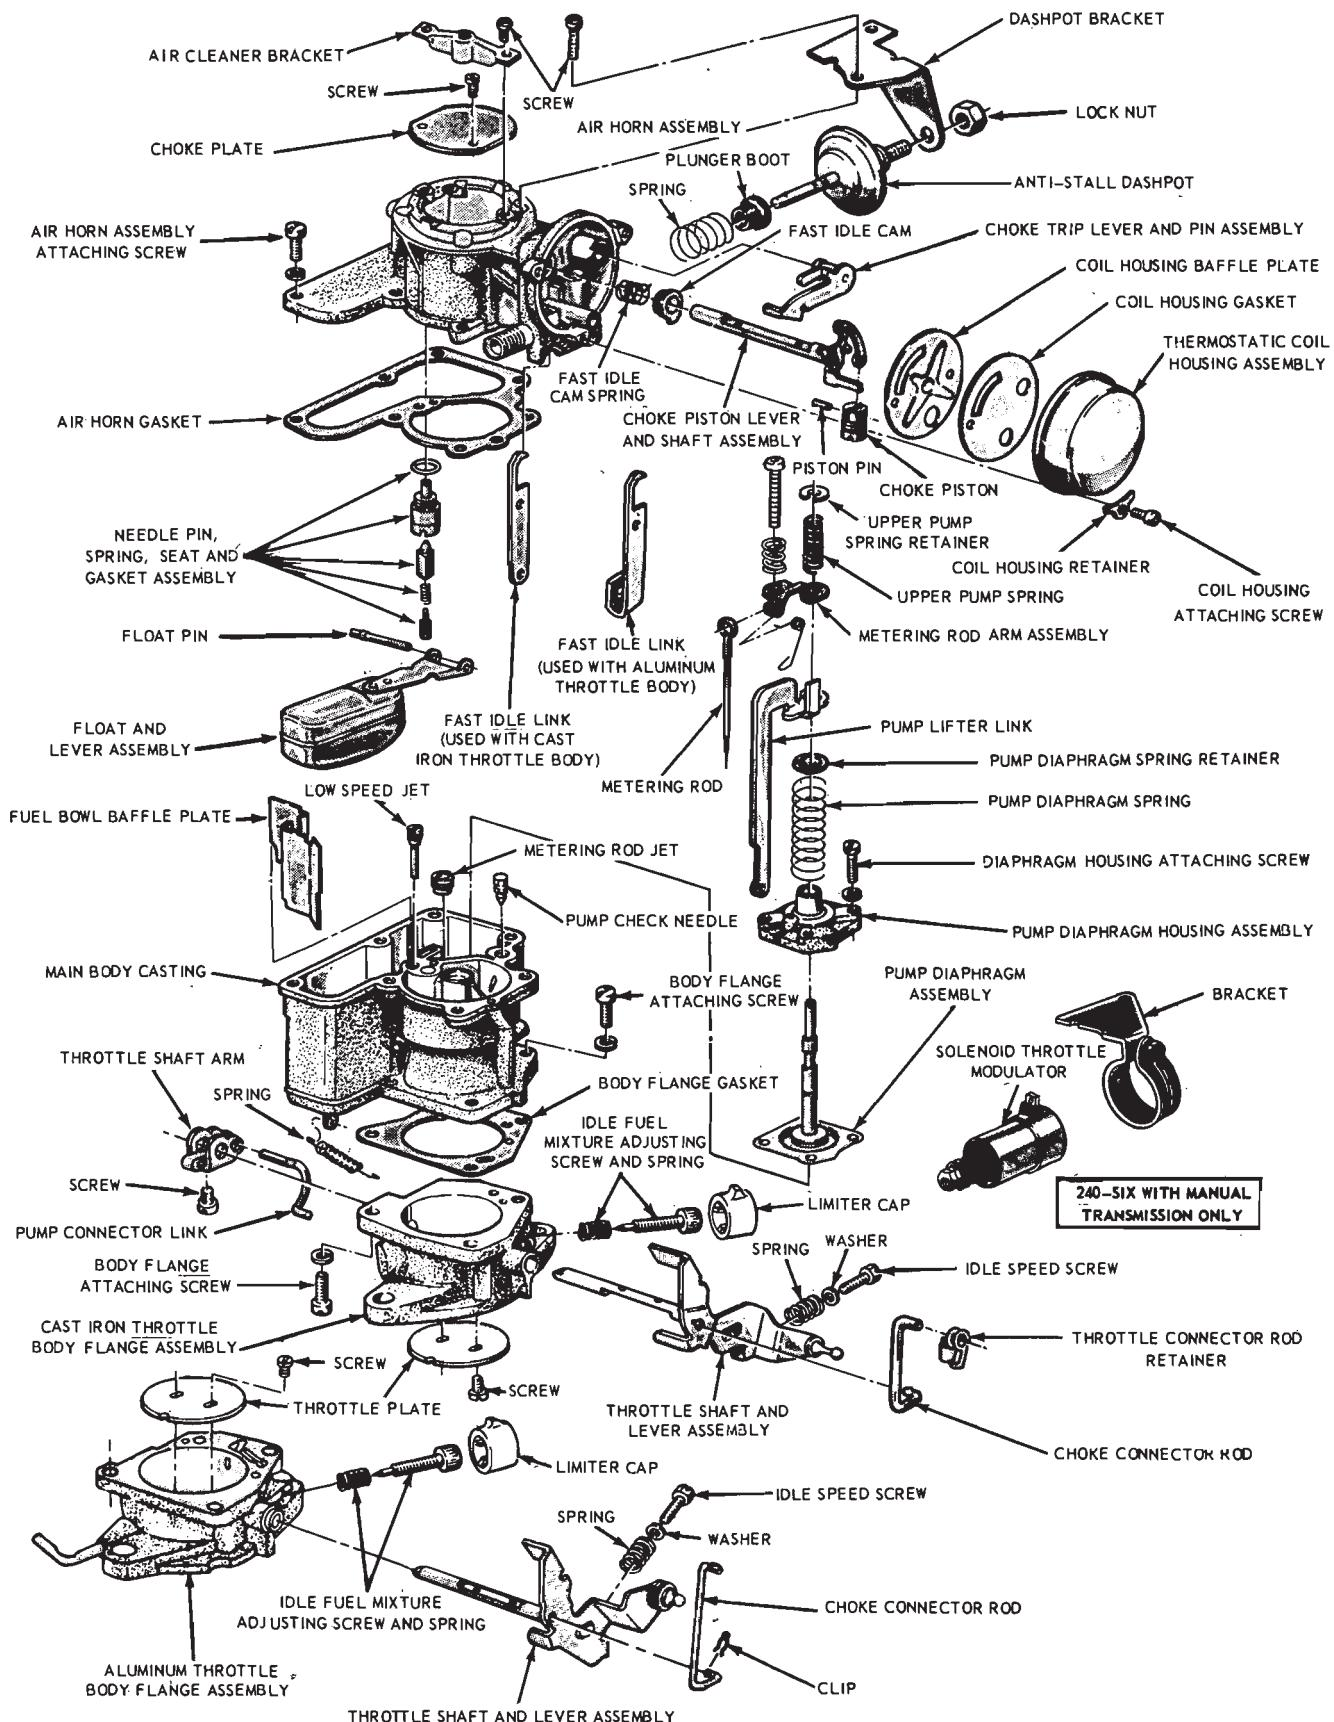
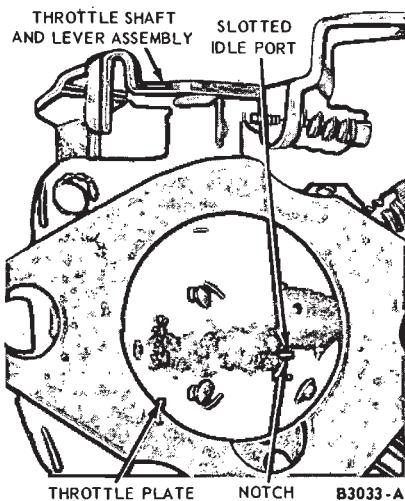

FIG. 10—Carter Model YF 1-V Carburetor Assembly
FIG. 11—Throttle Plate Installation in Cast Iron Throttle Body
1. Disengage the throttle connector rod retainer (Fig. 10) from the choke connector rod, and pull the rod out of the fast idle link.
1. Install the throttle shaft and lever assembly (Fig. 10) in the throttle body flange. Position the throttle plate on the throttle shaft with the notch in the plate aligned with the slotted idle port (Figs. 11 and 12) in the throttle body flange. Install the throttle plate attaching screws snug, but not tight. Move the shaft back and forth and rotate it to be sure the throttle plate does not bind in the flange bore. Reposition the plate if necessary. Tighten the screws and stake (or peen) the screws in place.